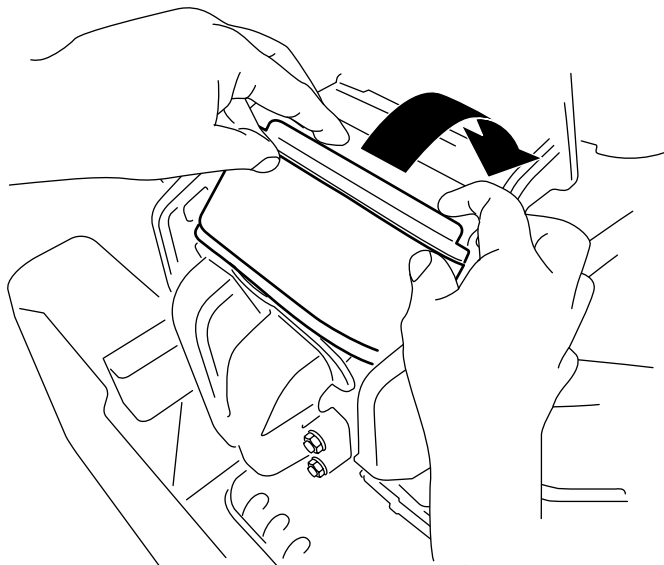

Figure 44
3. Rotate the filter down into the chamber and fully seat it against the manifold (Figure 44).